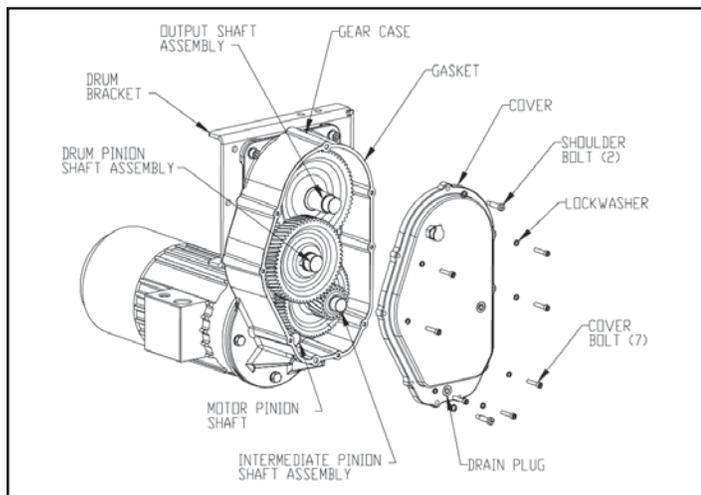

Figure 5-7. Hoist Gear Case Assembly
- Gearcase.** (See Figure 5-7.)
- (1) Lower hook block to the floor and relieve all load from ropes.
- (2) Make sure power to hoist is off and locked out.